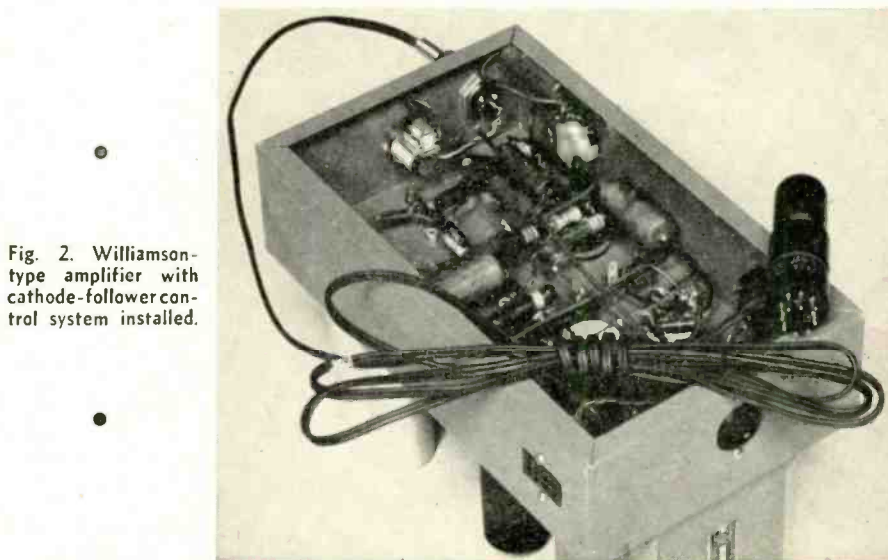

Fig. 2. Williamson-type amplifier with cathode-follower control system installed.
Four steps are involved in the realization of such a hi-fi system. The engineering and craftsmanship required are a minimum. The first step involves the addition of a few components to the power amplifier, as shown schematically at (A) in Fig. 1 and pictorially in Fig. 2. The second step is the "adaption" of the units. The third step is the construction of the simple adapter devices. The fourth step is the installation of the complete system.
pedance sources. Figure 2 shows a Williamson type amplifier with relay installed.